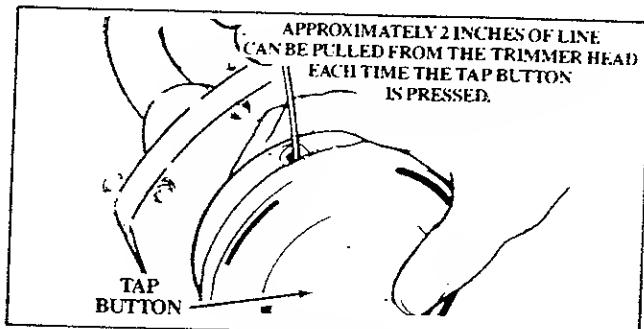

Figure 20
- h. Pull on the line to change the spool from the locked position to the operating position. Figure 20.
**NOTE:** Each time the tap button is pressed, approximately 2 inches of line can be pulled from the trimmer head. Figure 20.